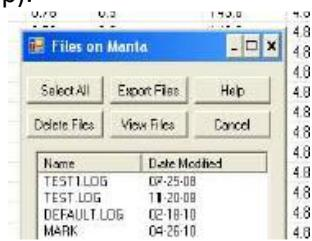

Figure 28. Manage Manta2
7. A pop-up screen will appear showing the name of the Log file and the date the Log file was last modified, along with several options for managing the Log file (Fig. 28). (The active Log file name is also displayed in the bottom line of the Home Page.)